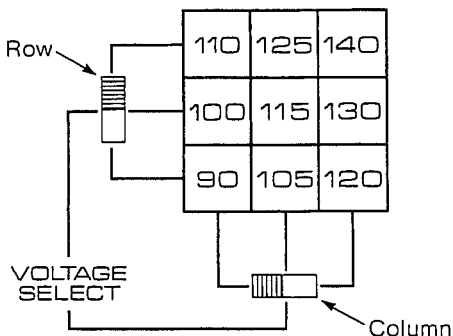

Fig. 2. Voltage select matrix.
- Select the desired voltage with the VOLTAGE SELECT switches. The two 3-position switches are connected in a matrix arrangement as shown on the front panel of the ISOPACK, and in Fig. 2. The 3 x 3 matrix provides nine possible combinations, each producing a different output voltage. For example, if both switches are in the center position, a 115-volt output results. With the "ROW" switch selecting the top row and the "COLUMN" switch selecting the left column, a 110-volt output results, etc.
- The voltages shown on the matrix (Fig. 2) are approximate, depending upon the load and the input voltage's variance from 120 volts. To determine the specific voltage, connect a precision multimeter such as the B & K-PRECISION Model 2810 or 2830 Digital Multimeter to measure the AC voltage at the ISOLATED output.